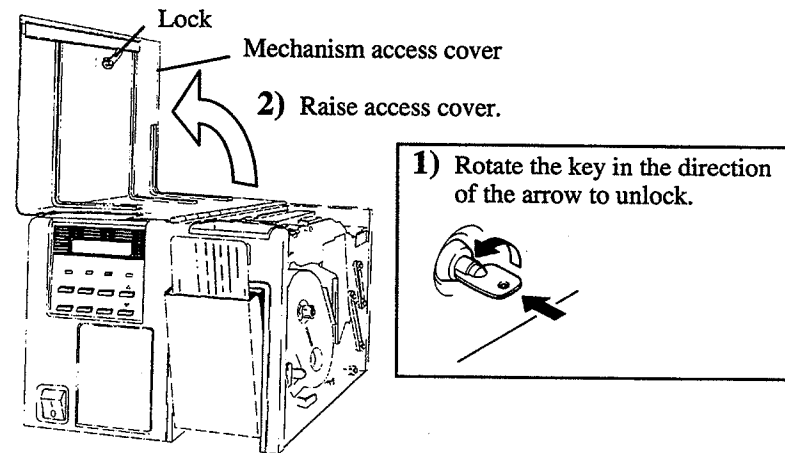

FIGURE 4-5. OPENING THE MECHANISM ACCESS COVER.
2. Raise the access cover to a full upright position as shown in figure 4-5.